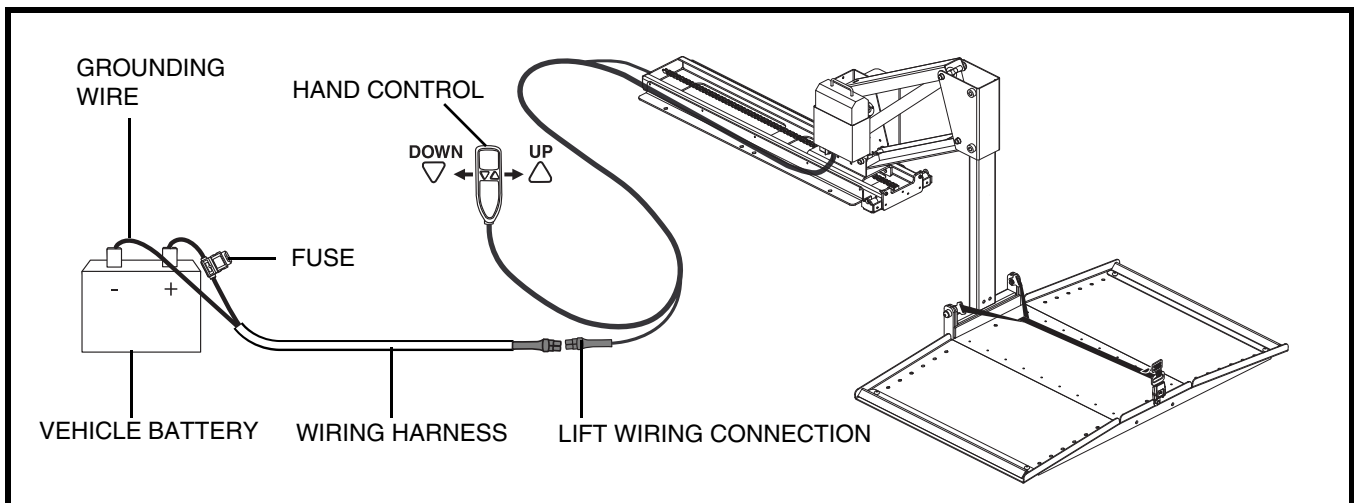

Figure 3. Wiring Harness Installation
1. Route the lift system wiring harness (starting at the lift) through the interior of the vehicle until you reach the vehicle battery. See figure 3.
4. Remove the 15-amp fuse from the wiring harness. See figure 3.